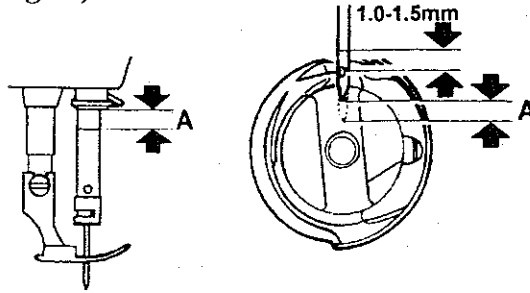
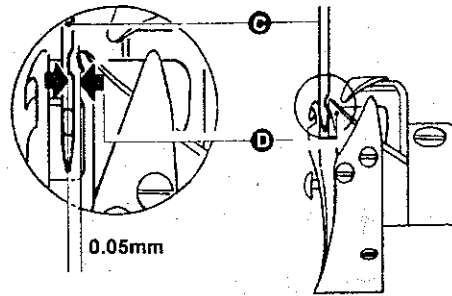

Fig. 15
Fig. 16
When the needle bar is raised from its lowest position the gap should equal that illustrated by (A) in Fig. 15. The hook point (D, Fig. 16) of the bobbin should align with the center line of the needle and be 1- 1.5 mm above upper end of the needle eye (Fig 15).
The clearance between the bottom of the needle notch and the hook point should be approximately 0.05 mm (Fig. 16).